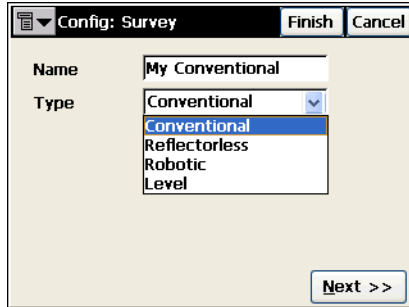

Figure 3-46. Config: Survey
2. On the *Config: Survey* screen, enter a name for the Configuration and select its type, then tap **Next** (Figure 3-46 on page 3-33).